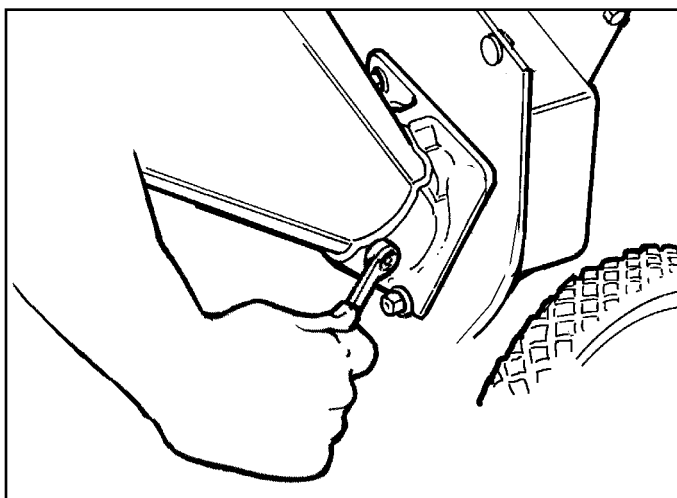

Figure 31. Removing Chipper Cone to Expose Chipping Knives.
3. Using an allen wrench on the bolt head inside the cone, and a 7/16" wrench or socket on the nut (see Figure 31) remove the chipper cone to expose the oval chipping block and one chipping knife.